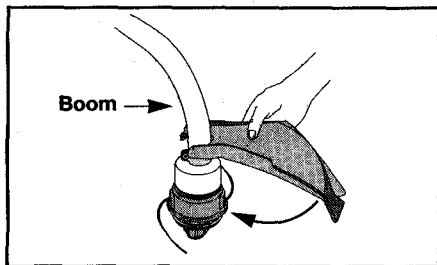

Fig. 6
1. Place the string guard onto the boom above the clamp assembly, so that the guard is in front of the string head (Fig. 6).